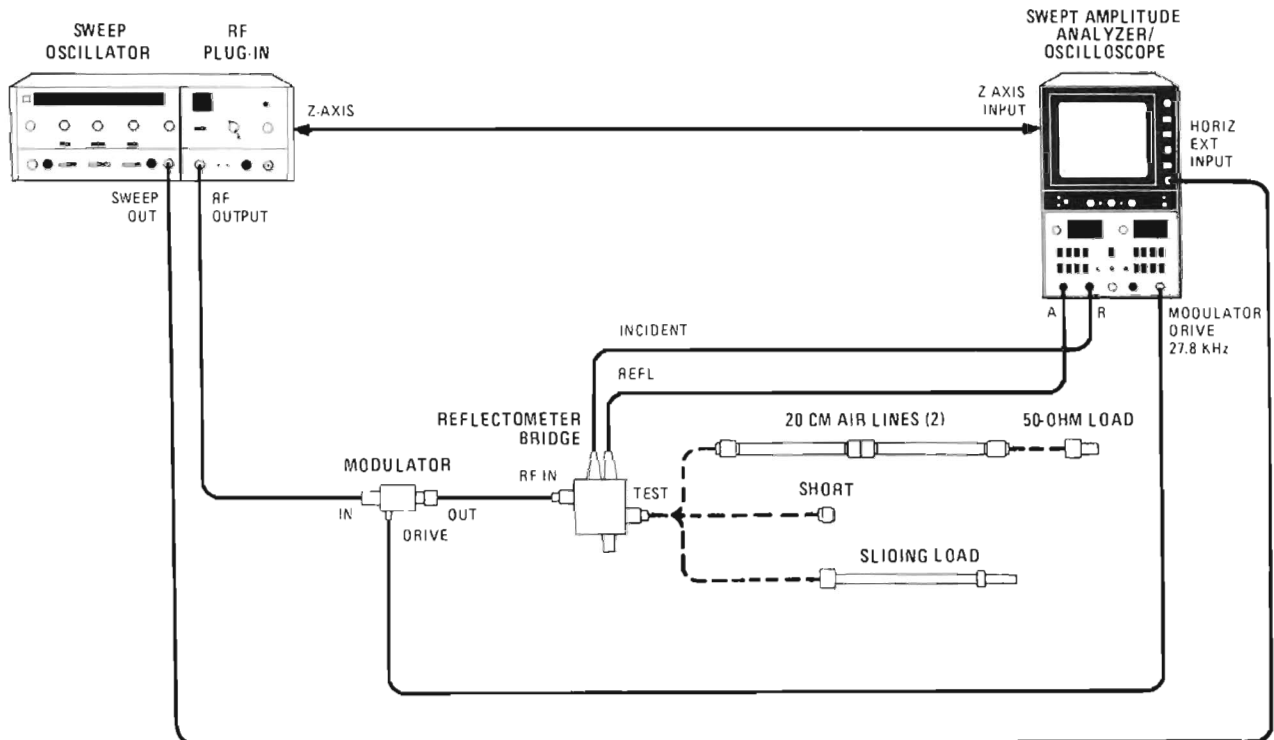

Figure 5-1. Directional Bridge Bias Adjustment Test Setup
- a. Connect equipment as shown in Figure 5-1 with the Short connected to the 11666A TEST port.